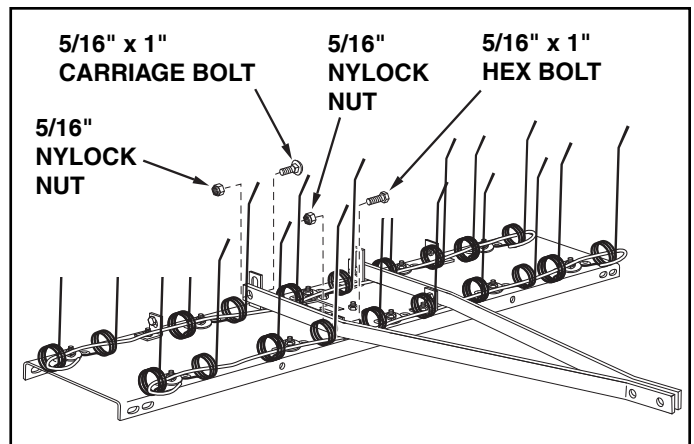

FIGURE 2
- Fasten the hitch mount arms to the outside of the front angle brackets. Use two 5/16" x 1" hex bolts and 5/16" nylock nuts. **Tighten**, then **loosen** the nuts slightly. See figure 2.
- Fasten the hitch mount arms to the outside of the rear hitch arm mount brackets. Use two 5/16" x 1" carriage bolts and 5/16" nylock nuts. **Do not tighten yet.** See figure 2.
- **Tighten** the rear bolts and nuts assembled in figure 2.